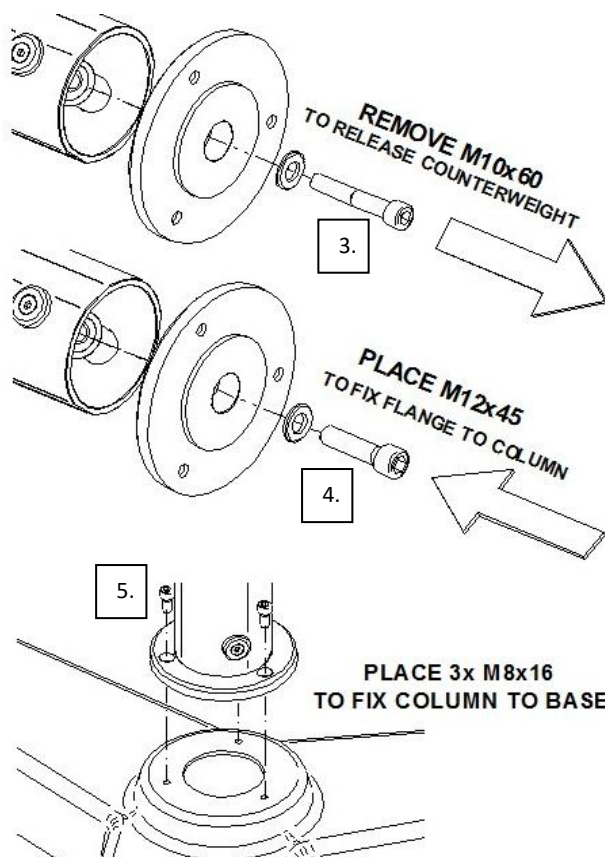

Figure 2. Unlocking the counterweight and mounting the column.
3. Releasing the counterweight (fig.2)